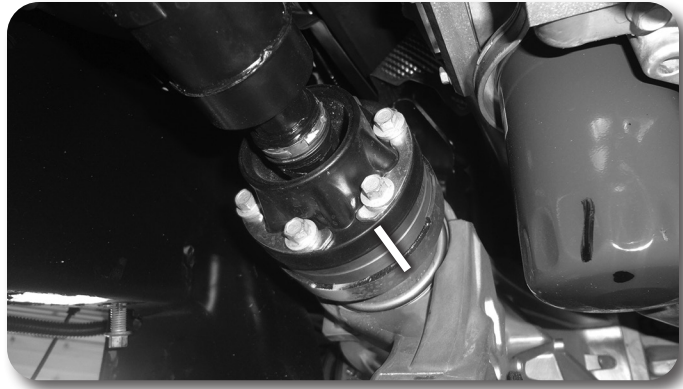

Figure 13
20. Make an alignment mark to show the relationship between the front driveshaft and the differential yoke. Remove the six driveshaft bolts and disconnect the driveshaft from the differential. Save bolts **Fig. 13**.